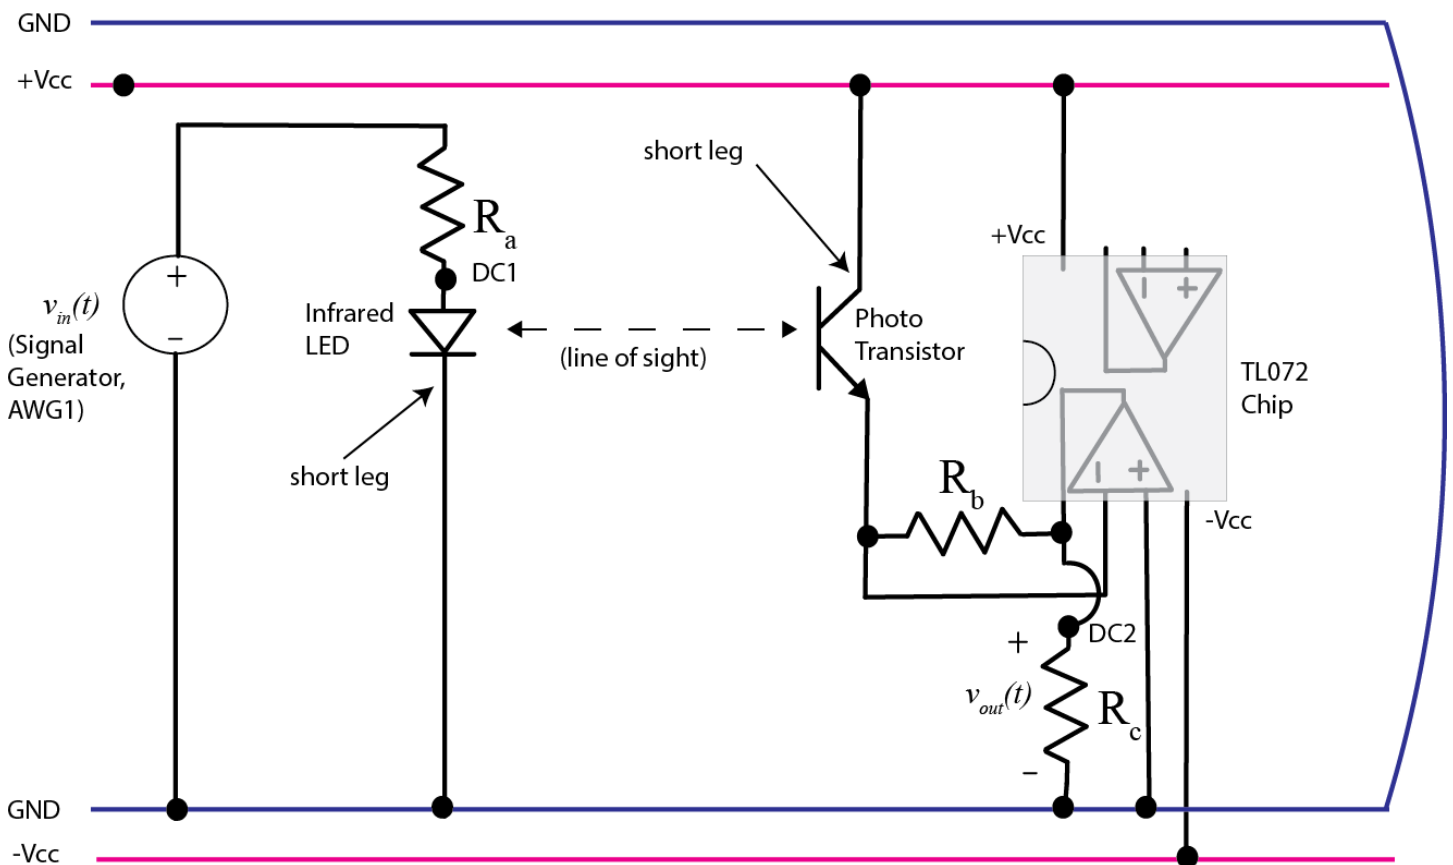

Figure 7. More detailed schematic of the optical transmitter and receiver.
Figure 7 shows a more detailed wiring diagram for building this circuit. You should lay out your breadboard in this fashion, with the LED and phototransistor straddling the centerline.
3) First we will build the transmitter on the left of Figure 7. Use the infrared LED (the clear LED) and connect it to the function generator through the $R_a = 51\Omega$ resistor. Be sure the function generator and the output of the LED are connected to ground. Try and build this as far to the left end of your circuit board as possible. Finally, connect DC1 to measure the voltage across the LED relative to ground.
4) Next we will build the receiver, which should be built as far to the right as possible. Note that we are using an TL072 chip which includes two op amps on one chip. Be sure the dot on the chip is to the left (the semicircle on the drawing) and also to connect the power supplies correctly for this chip (they are different than for a 741 op amp!). Also be sure to connect the positive pin of the first op amp (the one we are using) to ground. Connect the rest of the circuit, using $R_b = 10k\Omega$ and $R_c = 1k\Omega$. Finally, the output of the receiver circuit is the voltage across the output resistor R_c , so connect DC2 as shown in Figure 7.